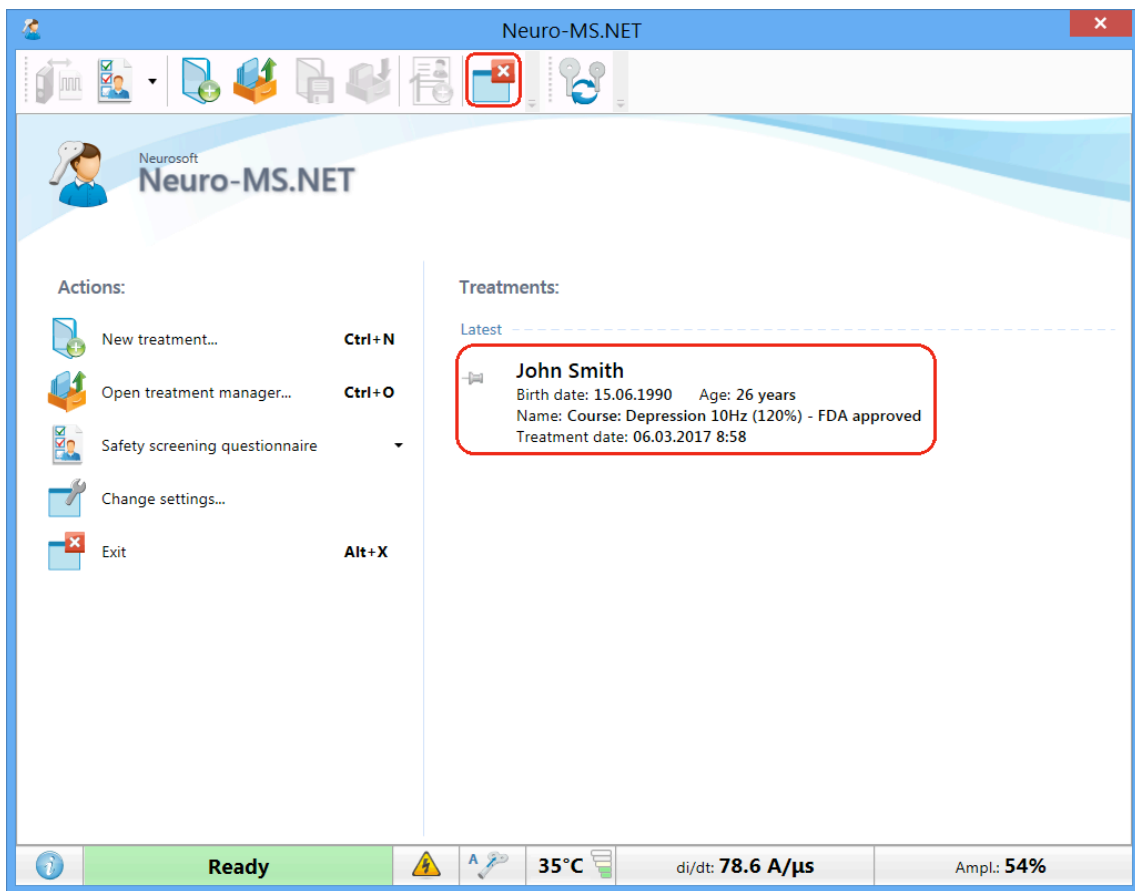

Fig. 42. “Start” page.
41. To close the program, use  toolbar button (Fig. 42).
7. Find a patient in “Latest” list of start window and left-click it (Fig. 42).